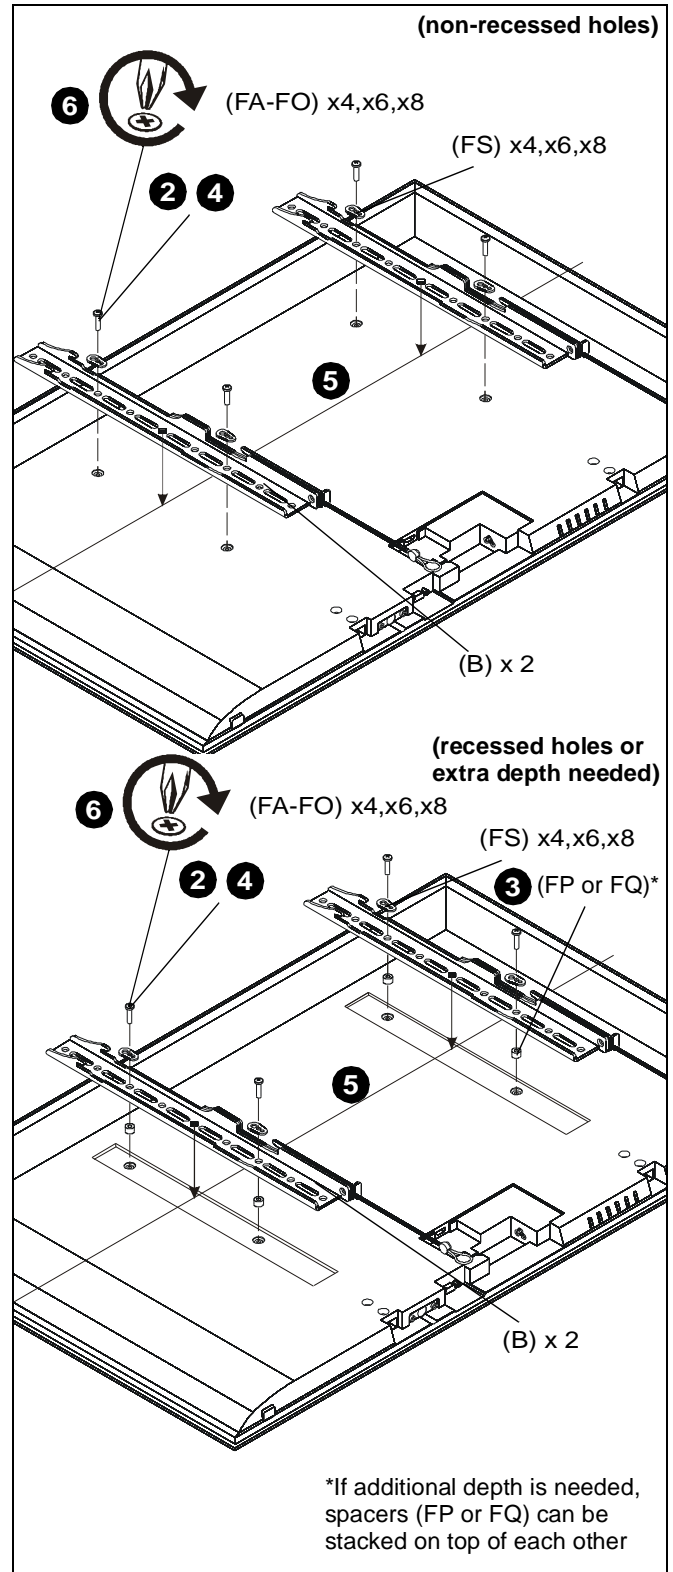

Figure 8
2. Select screw *diameter* by examining hardware (FA-FO) (8mm, 6mm, 5mm, or 4mm) and comparing with mounting holes on display. (See Figure 8)
3. Select spacers: (See Figure 8)
- If mounting holes are not recessed and both brackets (B) can lay flat against display, then no spacers are required.
- If mounting holes are recessed, or if protrusions prevent brackets (B) from laying flat, then spacers (FP or FQ) must be used.
4. Select screw *length*: (See Figure 8)
- Using your hand, insert **SHORTEST** length screw of selected diameter (FA, FE, FI or FL) through bracket (B), universal washer (FS), selected spacer (FP or FQ, if required), into display mounting hole. Do NOT thread screw into hole at this time.
5. Place brackets (B) on display, ensuring: (See Figure 8)
- Center of brackets (B) are as close to the center of the back of display as possible after being installed. Center of bracket is indicated by the diamond-shaped hole.
6. Using Phillips screwdriver, carefully install selected screws through universal washers (FS), brackets (B), and spacers (FP or FQ, if required), into display. (See Figure 8)